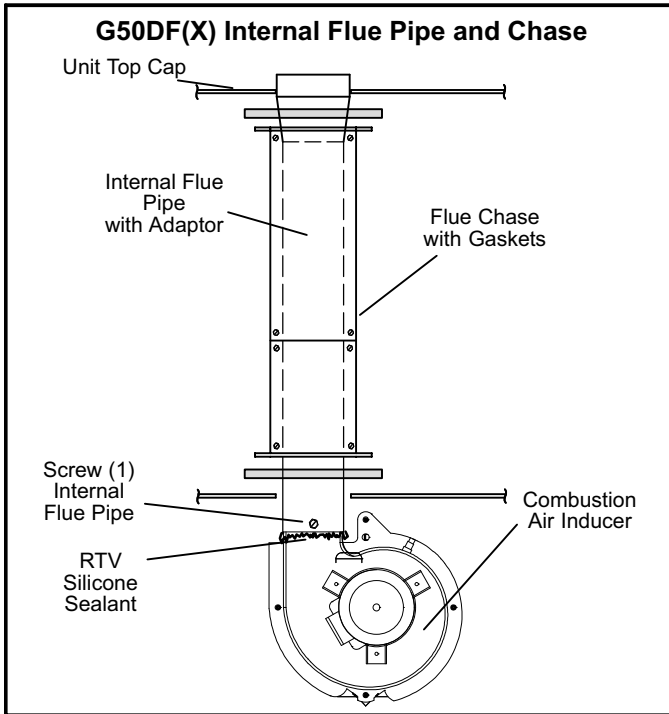

FIGURE 25
- 3 - Remove the screw that secures the internal flue pipe to the combustion air inducer. See figure 25.